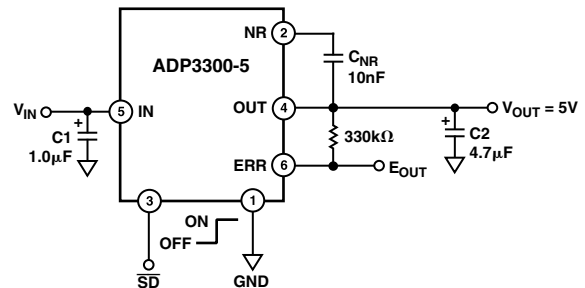

Figure 3. Noise Reduction Circuit
A noise reduction capacitor (C_{NR}) can be used to further reduce the noise by 6 dB–10 dB (Figure 3). Low leakage capacitors in the 10 nF–100 nF range provide the best performance. For load current less than 200 μA , a 4.7 μF output capacitor provides the lowest noise and the best overall performance. Since the noise reduction pin (NR) is internally connected to a high impedance node, any connection to this node should be carefully done to avoid noise pickup from external sources. The pad connected to this pin should be as small as possible. Long PC board traces are not recommended.